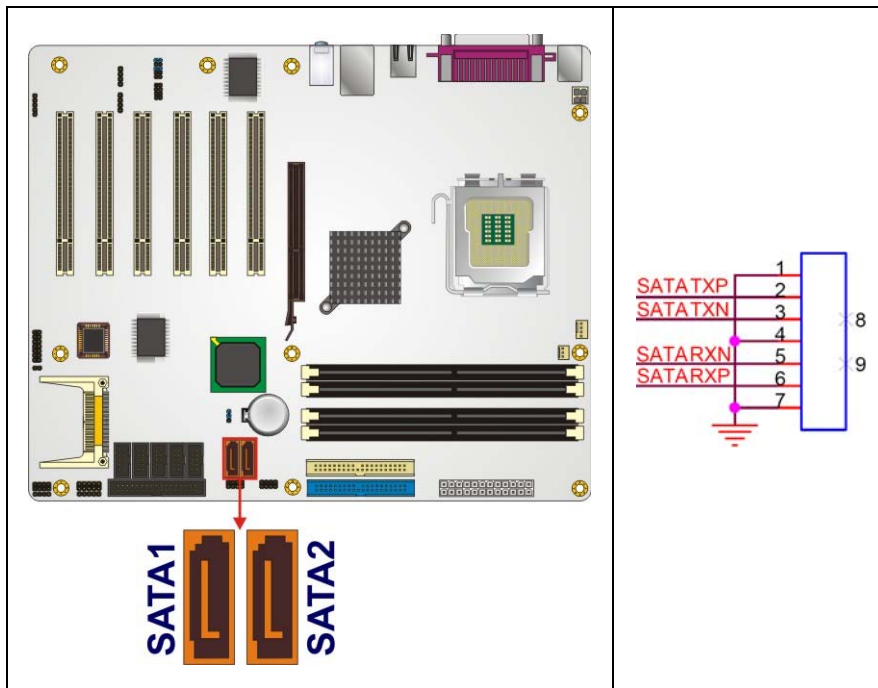

Figure 4-17: SATA Drive Connector Locations
- CN Location:** See **Figure 4-17**